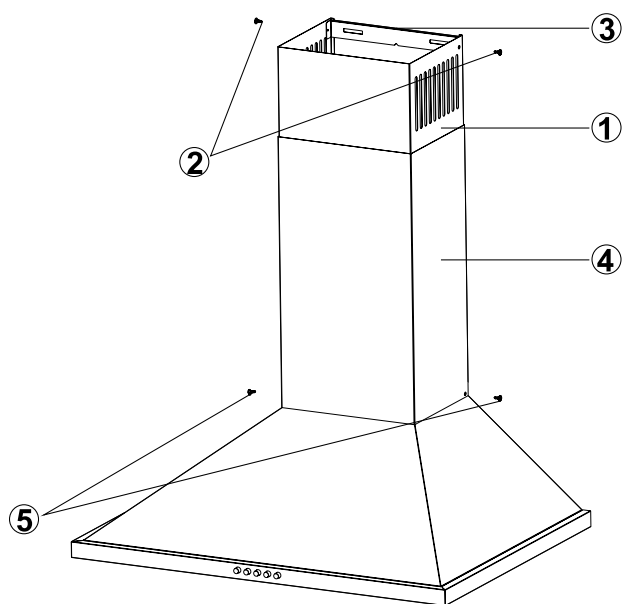

Fig. 13
- Center flue connection sheet (3) on the hood, hold it under the cover or measure and mark C, D points (Fig. 13).
- Drill C, D points with Ø6mm drill and place Ø6mm plastic pins. Place flue connection sheet on the surface where 3.9x22 screws will be installed.(Fig. 13)
- Pull out the internal flue (1) using screws (2) and screw it on flue connection sheet on the right and left (3).(Fig. 13)
- Mount the external flue (4) on hood body using 2 screws (5). (Fig. 13)